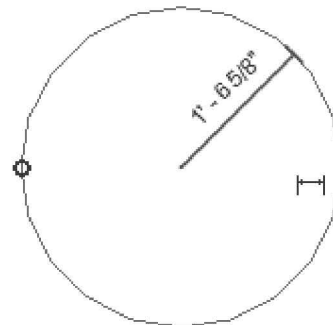

FIGURE 3-1.18
43. **Select the circle** and notice a temporary dimension appears indicating the circle's radius. Press **Esc** to unselect it (Figure 3-1.18).